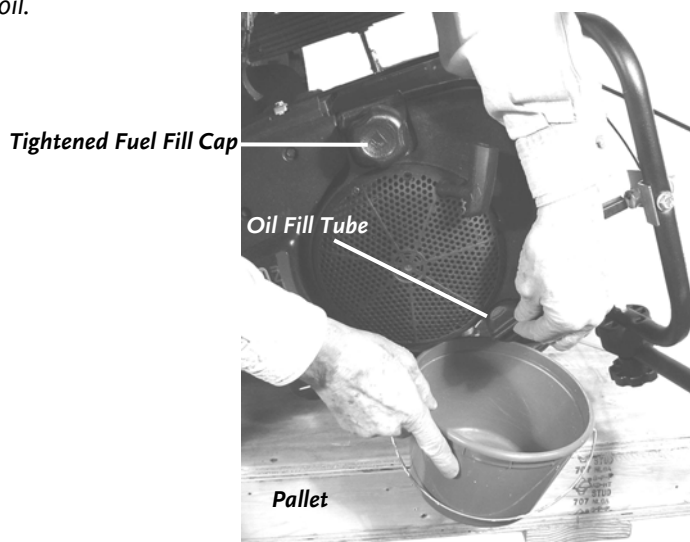

Figure 35
4. Using the handle of the DR TRIMMER/MOWER, tip the machine to the left and drain the oil out through the Oil Filler Tube into a suitable receptacle (**Figure 35**).